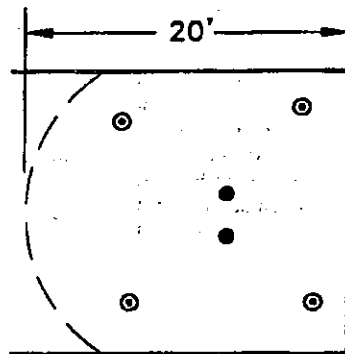

Figure 2-2: 20' Break
In normal situations, a pool with a 20' break, (see Figure 2-2) measured from the deep end, would require four (4) high flow heads on the floor.